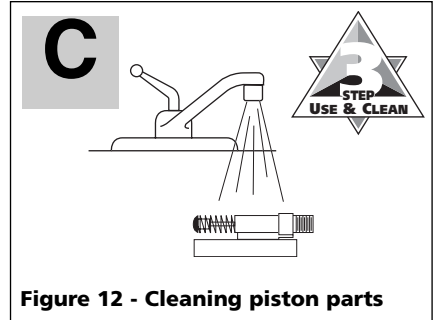

Figure 12 - Cleaning piston parts
- The lid portion body will pull away from rest of gun body. Pull piston out from front of gun body and clean thoroughly (see Figure 12).